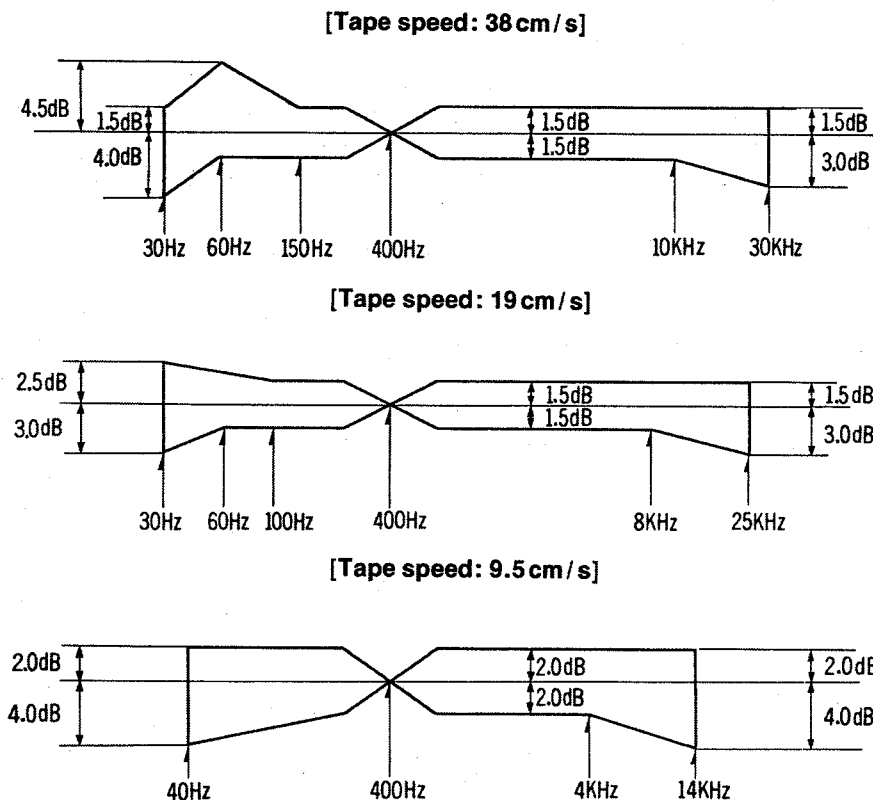

Fig. 46
6. Next vary the input signal frequency between 24 kHz and 5 kHz, and confirm that the frequency response is within the range shown in fig. 46.
<p>9. If it is not within 0— – 1 dB, adjust VR505 and VR504 for within this range.</p> <p>10. Once again change the tape speed to 19cm/s, and input signal frequency to 24kHz, and confirm that playback output is as described in step 4 above.</p> <p>11. If it is not, adjust peaking coils L101 (for L-CH) and L201 (for R-CH) shown in figure 47.</p> <p>After the above measurements and adjustments, measure the overall frequency response at 19cm/s and 38cm/s tape speeds, and confirm that it is within the range shown in fig. 46.</p> <p>Characteristics at 9.5 cm/s tape speed</p> <p>After adjustments described above are complete for 38cm/s and 19cm/s, confirm frequency response at 9.5 cm/s.</p> <p>1. Record an input signal of 14kHz, – 44 dB at 9.5 cm/s tape speed, and measure the playback output.</p> <p>2. If the measured value is not within the range shown in fig. 46, adjust VR506 so that it is within this range.</p>